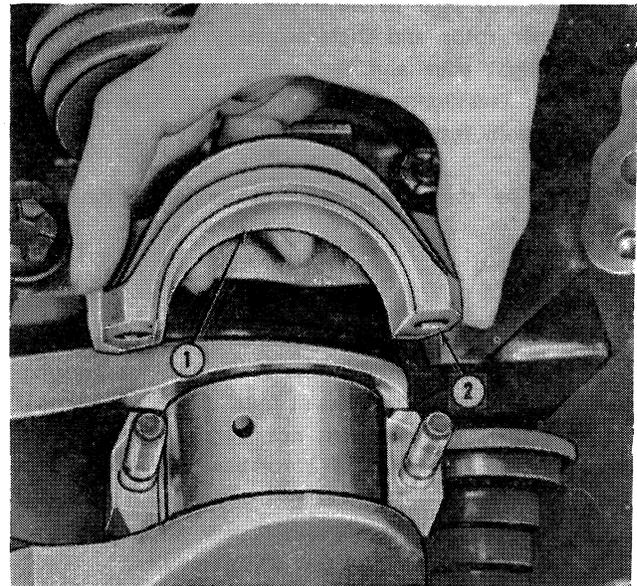

Figure 37
5. Remove the nuts from the connecting rod bearing cap bolts of the piston that is at the bottom of its stroke. Remove the rod bearing cap and liner, Figure 37, from the rod. Push the piston and rod assembly away from the crank pin and remove the bearing liner from the rod. Push the rod and piston